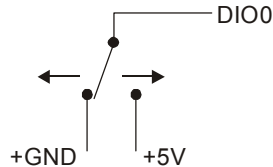

Figure 3-10. Schematic showing switch detection by digital channel DIO0
When you configure the digital bits for input, you can use the USB-TEMP digital I/O terminals to detect the state of any TTL-level input. Refer to the schematic shown in Figure 3-10. If you set the switch to the +5V input, DIO0 reads *TRUE* (1). If you move the switch to GND, DIO0 reads *FALSE* (0).